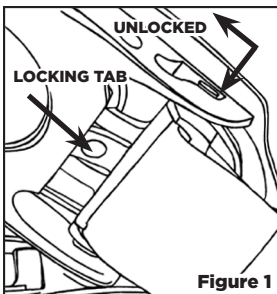

Figure 1
- 1 Depress the locking tab on the gray retention clip and push the gray retention clip forward. Perform this on both sides of the mask. [See Figure 1]